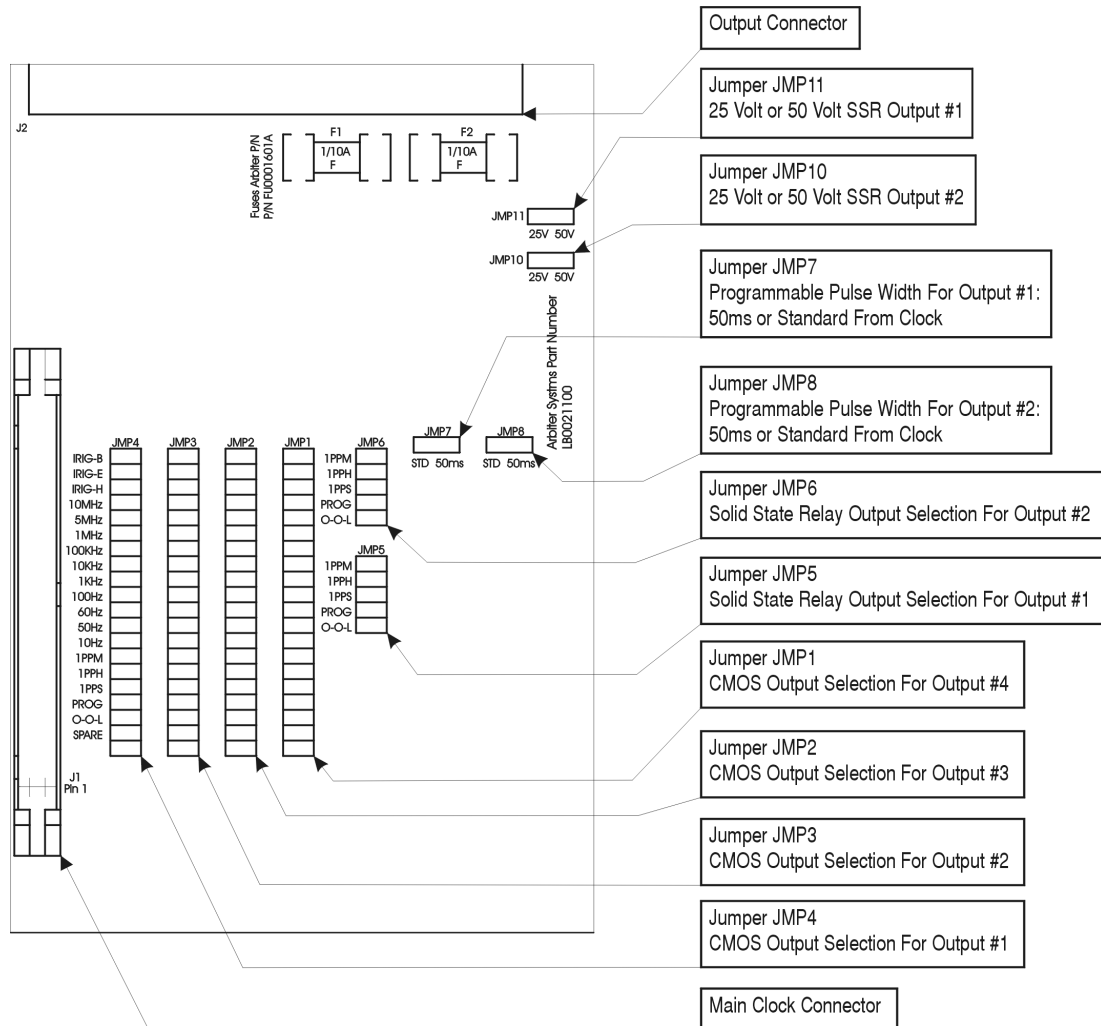

Figure B.6: Option Jumper Locations
Available Output Signals:	Jumper selectable to any of the digital signals available from the clock mainframe plus on board generation of 1 PPS and Programmable Pulse for the 1200 and 1201 clock models. See Figure B.6 for Jumper location and selections.
3. Locate the appropriate jumper using Figure B.6 and move the jumper to the desired setting.